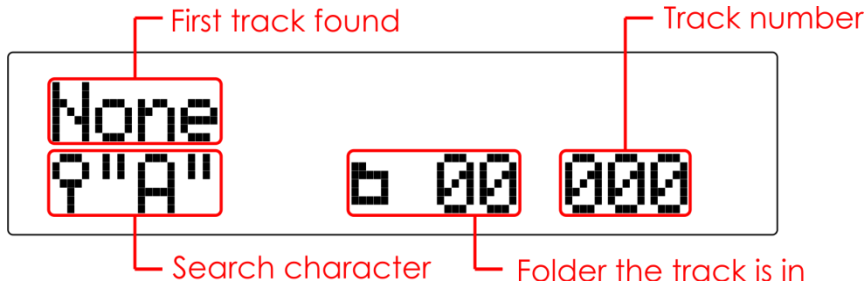

Fig. 05
01) Press the **Find (15, 35)** button once to start track search. See fig. 05.